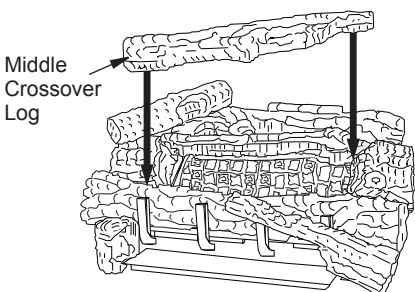

Figure 31 - Installing Middle Crossover Log
10. Rest the middle crossover log (18" D-070, 24" & 30" D-044) onto the right middle log and the left front log (see Figure 31). Make sure to match the projection on the bottom of the crossover log with the recess area in the right middle log and the left front log.